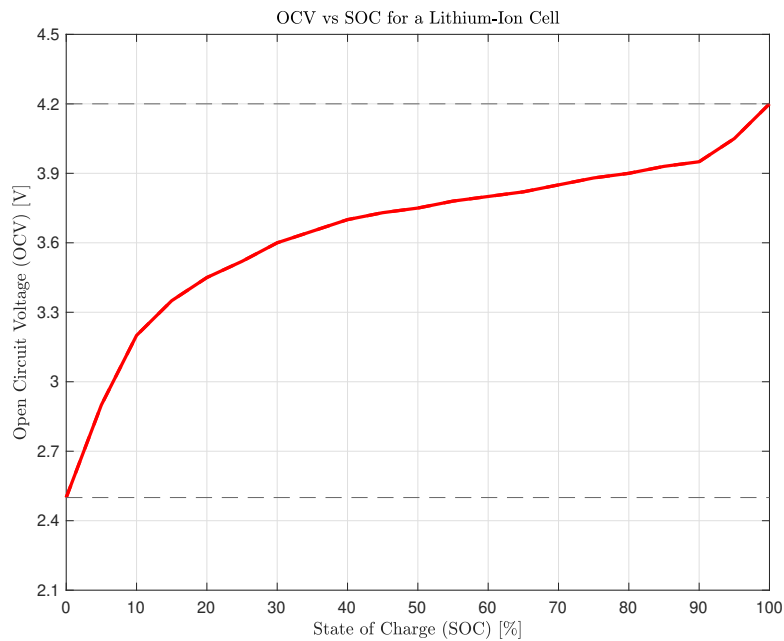

Figure 2.2: OCV for a lithium-ion cell.
Figure 2.2 shows how the OCV depends on the SOC for a lithium-ion cell with marked cut-off voltages. The cell has a capacity of 40 Ah, an internal resistance of 7.5 mΩ, and is charged and discharged using a 1C constant current (CC) rate.